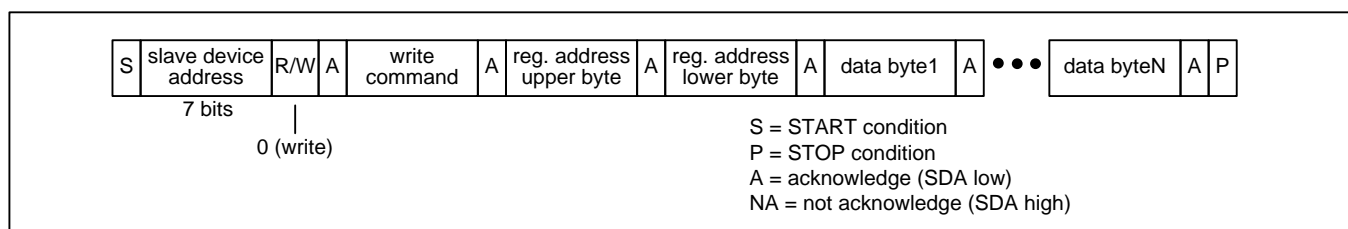

Figure 11 – I²C Register Write Transaction Functional Timing
Register Write Transactions. The device registers are accessible when $\overline{ESEL}=0$. The bus master does an I²C write to the device. The first three bytes of this transaction are the SPI Write command (see Table 3), the upper byte of the register address, and the lower byte of the register address. Subsequent bytes are data bytes to be written. After each data byte is received, the device writes the byte to the write address and then increments the write address. The bus master terminates the write with a STOP condition (P). See Figure 11.